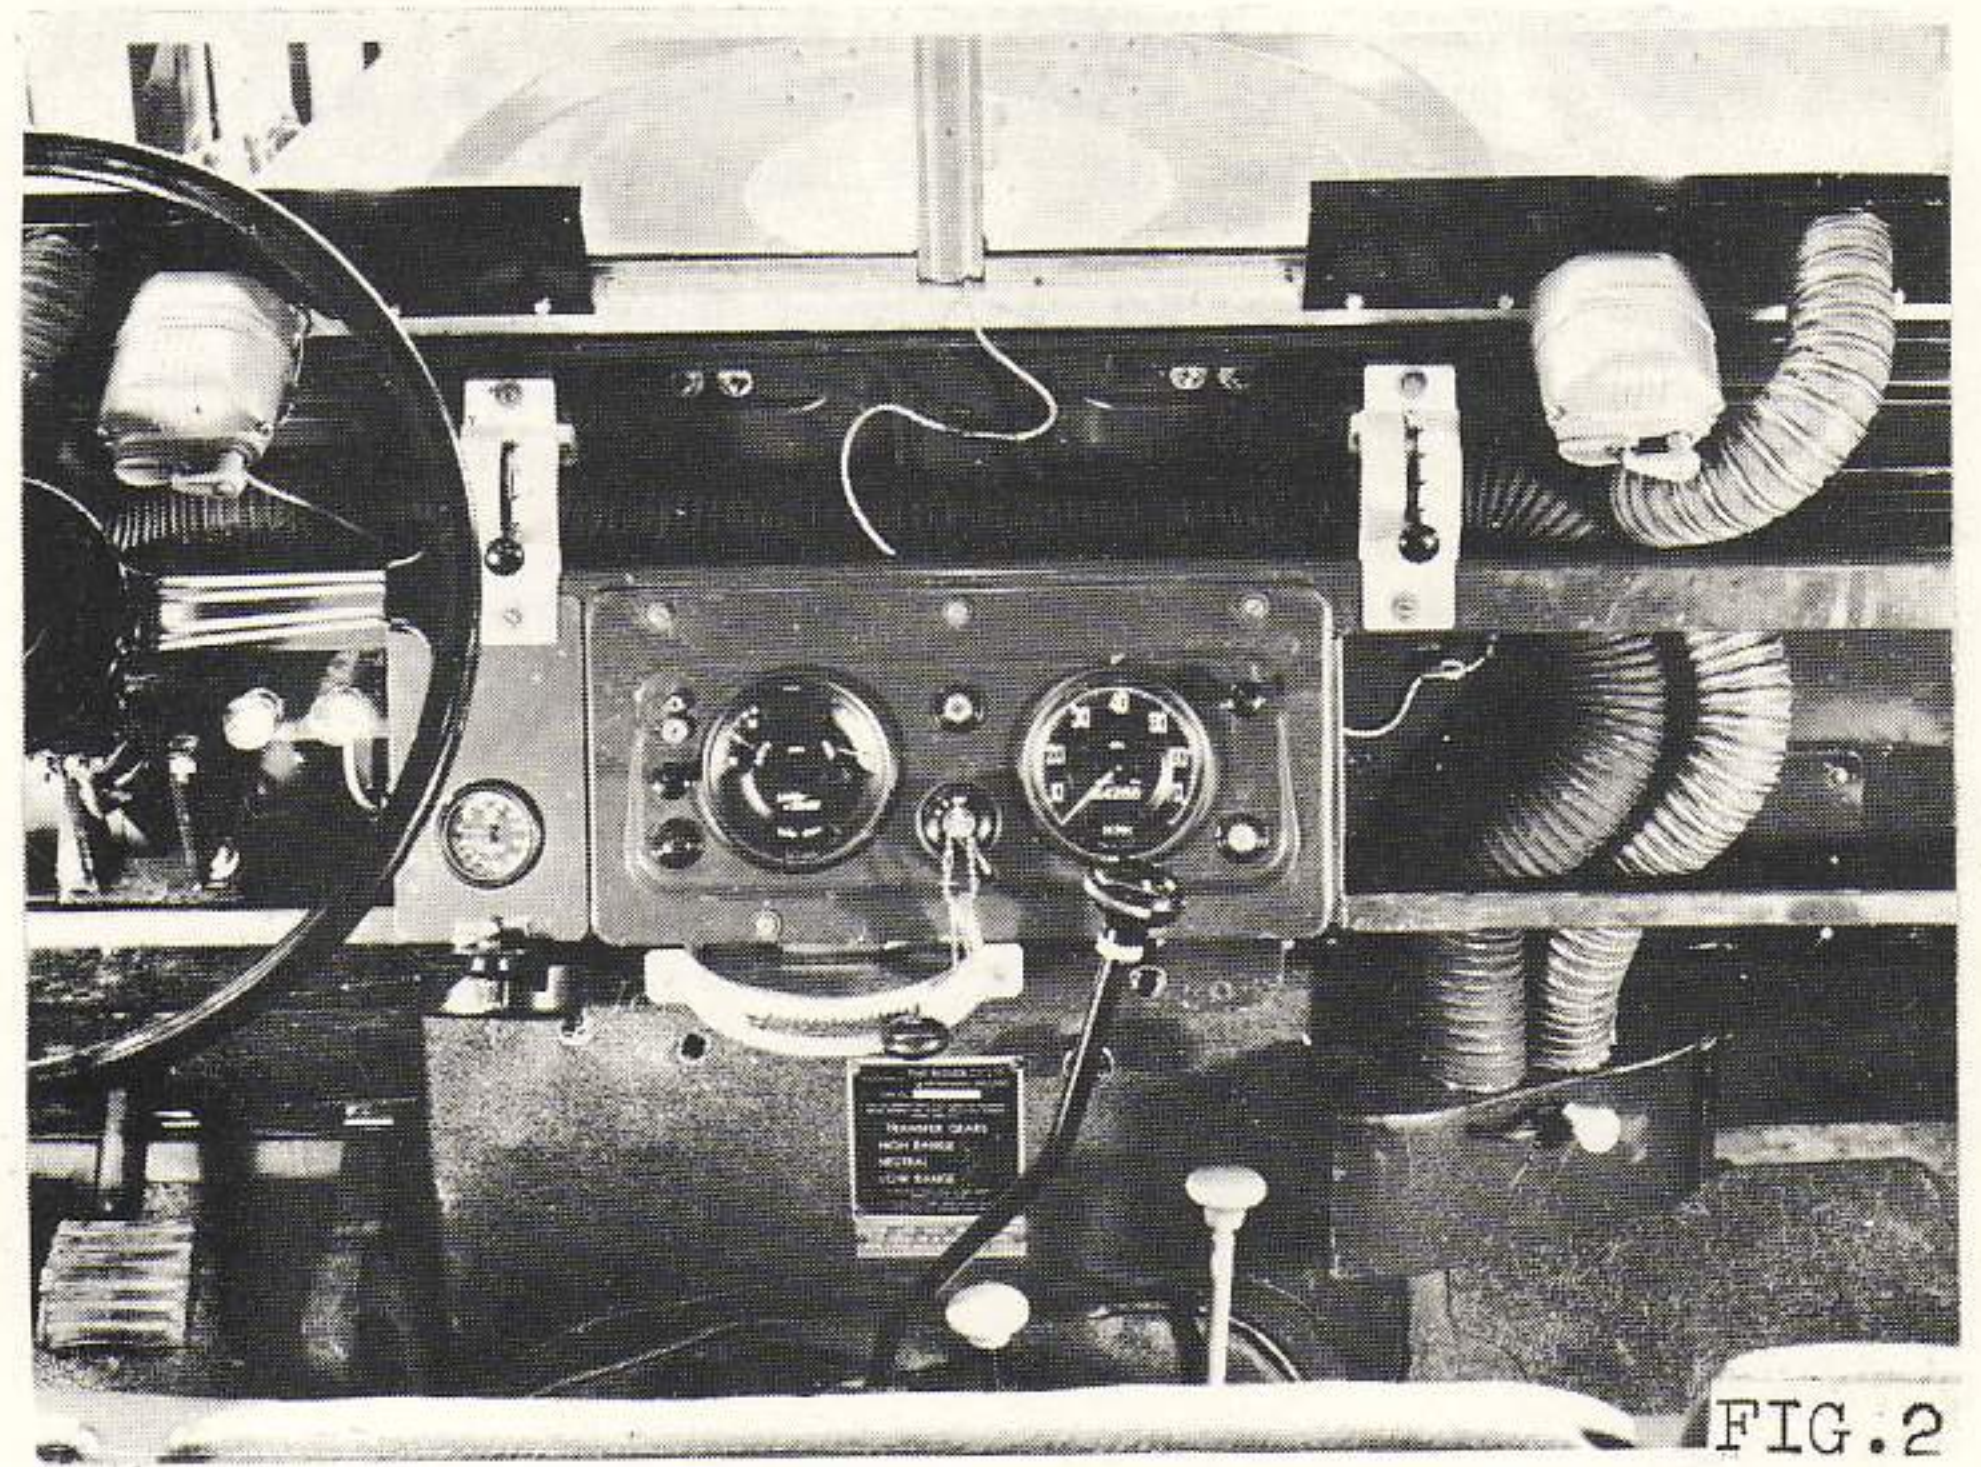

FIG.2
1. Mount defroster outlets as shown in fig. 2.
2. In top parcel shelf, 1" to right of windshield wiper connecting socket, punch two 2-3/8" dia holes as shown in fig. 2 (see list of tools required). In lower shelf of glove compartment, punch two similar holes to align with heater duct outlets.
3. On the driver's side, mount control panel between steering column and instrument panel as shown in fig. 2. To accommodate the control cable, it is necessary to drill one 5/16" hole through the fire wall which at this point is a hollow section.